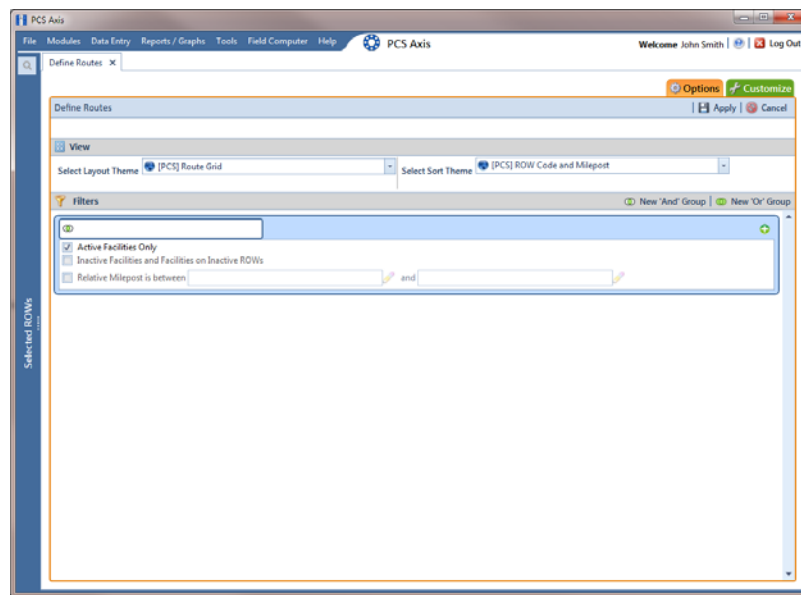

Figure 8-3. Filters
- a Click the check box of one or more options in *Filters* and then click  **Apply**. For example, click **Active Facilities Only** to only include active facilities (Figure 8-3, page 354).